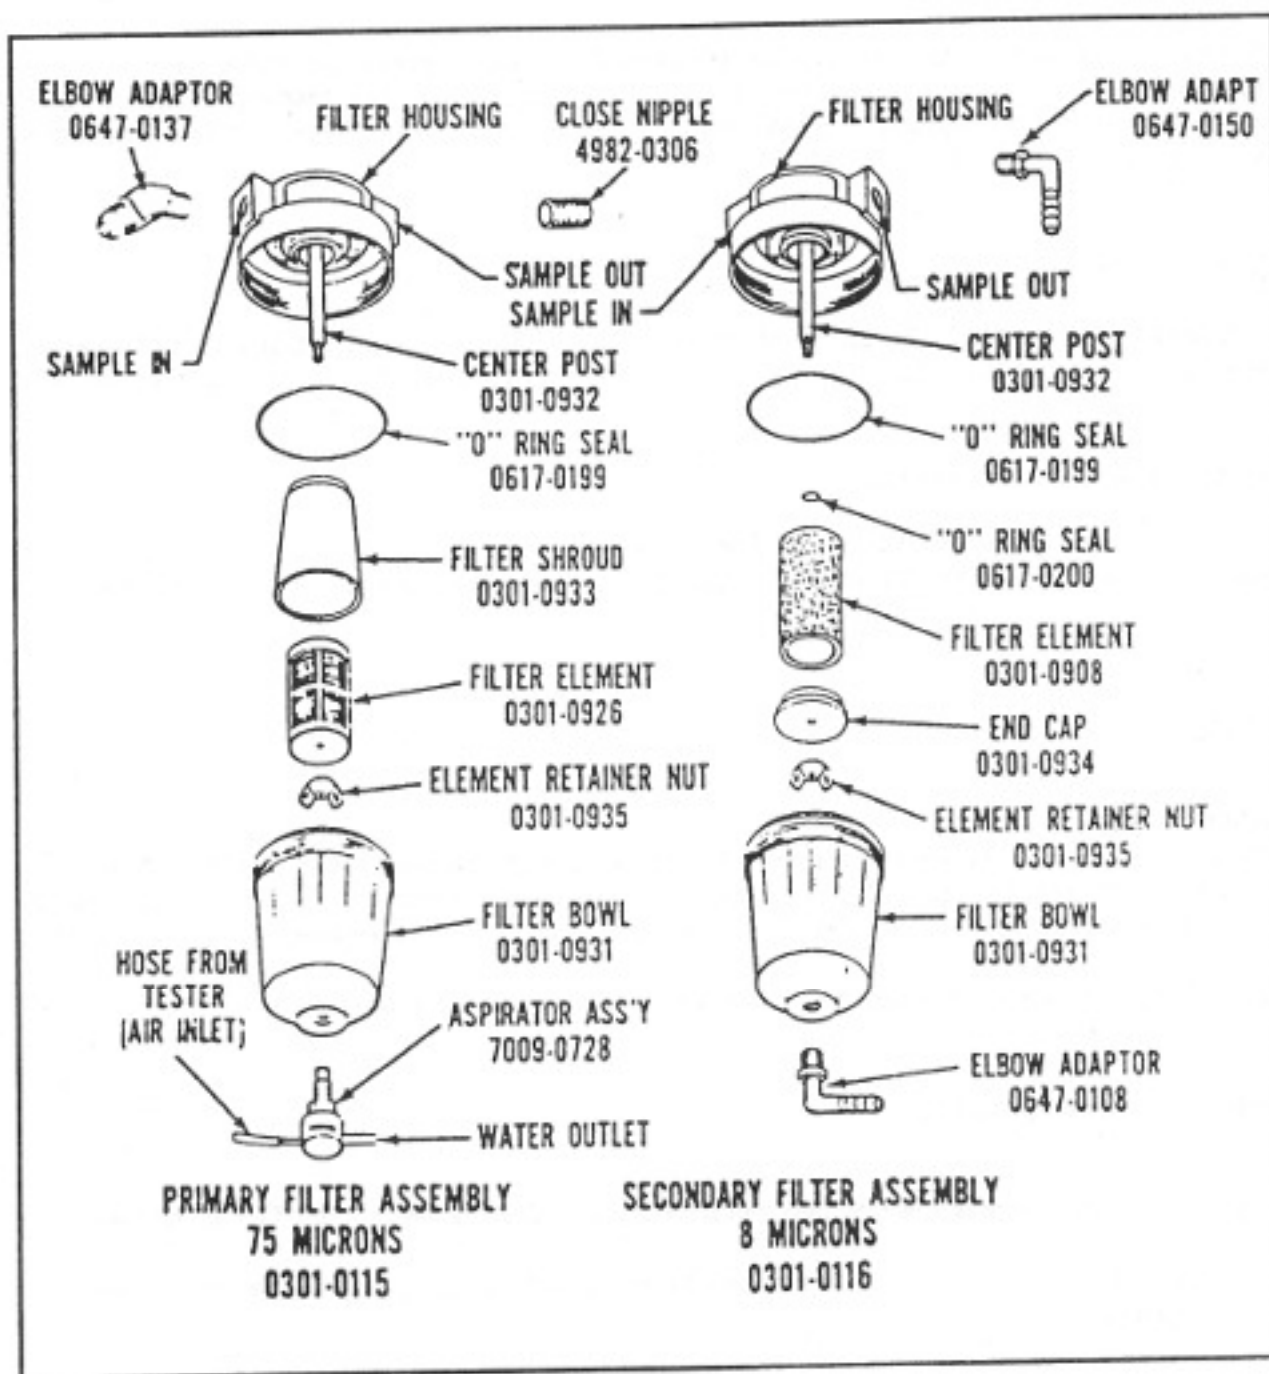

FIGURE 63. Sample Filter Arrangement
1. Disconnect the water outlet and air inlet hose from the fitting on the filter bowl. See Figure 63.
1. Disconnect hose from the elbow adapter. See Figure 63.